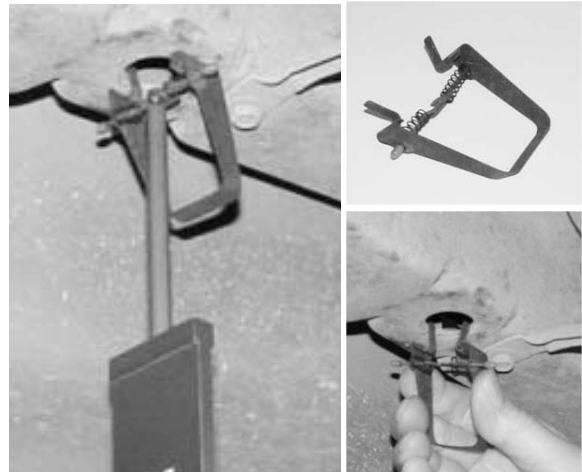

Figure 15
*Extruded Hole Attachments* - mate with both horizontal and vertical reference holes. Spring tension holds the attachment within the hole so that Targets can be mounted as shown in Figure 15 and its inset.